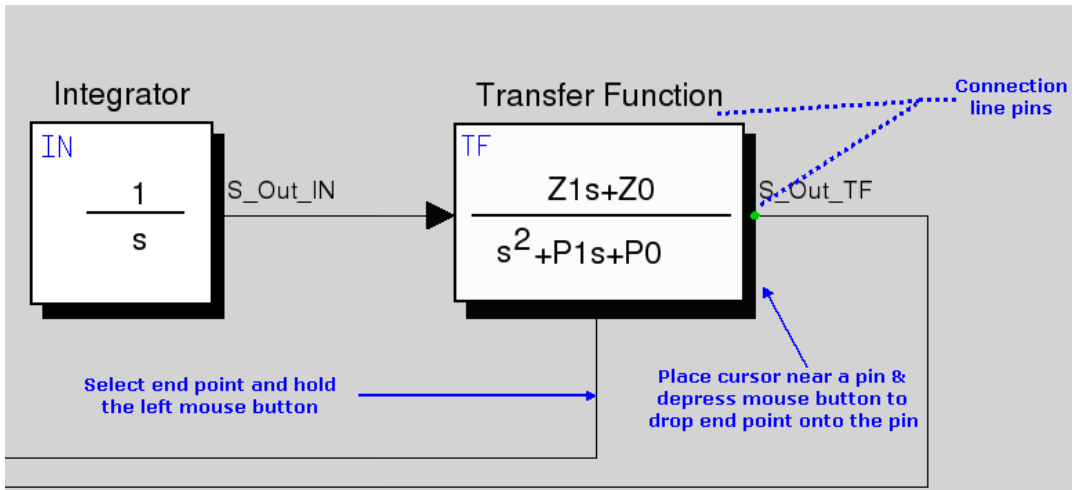

Figure 34 Anchored Connection Line
Figure 34 shows the connection pins around the TF component as red carets (^). Every component has a total of 20 connection pins, usually five on each side.
Connection line endpoints are moved by selecting and moving an endpoint from one pin to another. Figure 34 shows an example of moving the TF component connection line endpoint from the bottom to the right side. Move this connection line endpoint on your model following the steps given here.
1. Select the connection line with HOLD-L from the TF component as shown in Figure 34. In this case, you want to move the output connection line endpoint, so select the connection line near the endpoint.